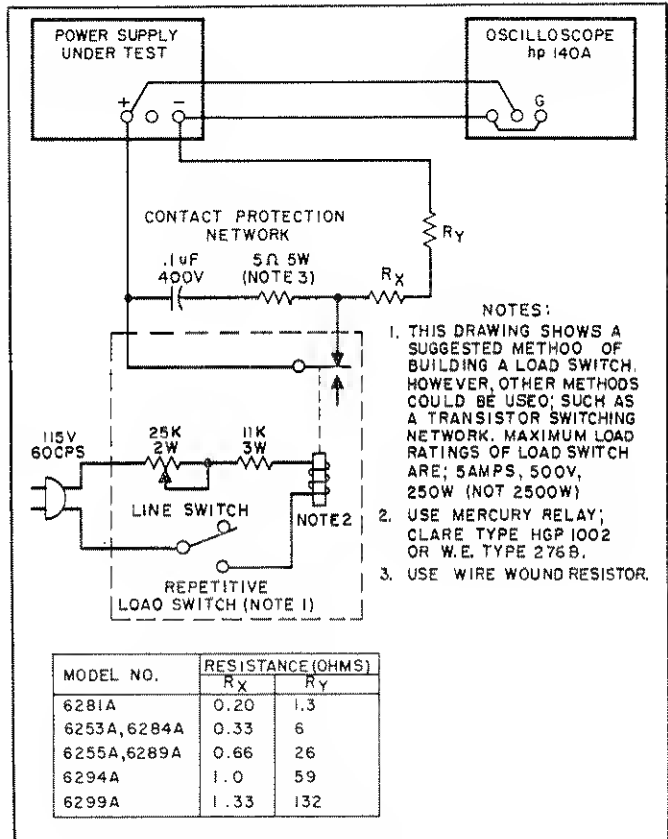

Figure 5-8. Transient Response, Test Setup
- Connect test setup shown in Figure 5-8.